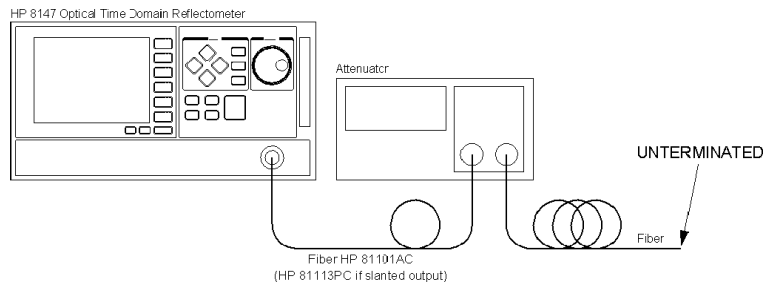

Figure D-16
- 1 Connect the equipment as shown in Figure D-16.